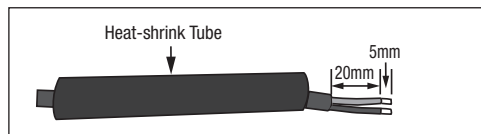

Figure 7. Apply Heat-shrink Tube
4. Slide the heat-shrink tube onto the longest cable and well away from the joint. This tube has to be kept clear of the solder splices when they are being heated. See *Figure 7*.